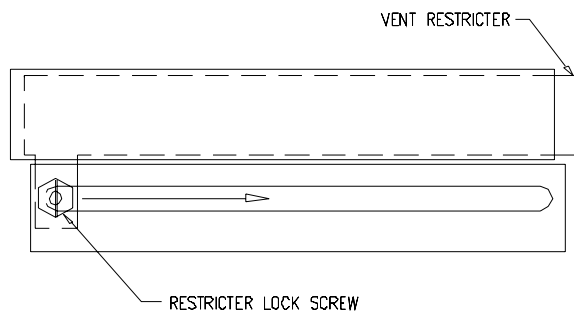

Figure 4.6 Secondary Air Adjustment
3. The adjusters are each held in place with one (1) 5/16" hex head screw. To change the position of each, loosen the appropriate screw and slide the adjusters to their new position. Tighten each screw when done (see Figure 4.6).
NOTE: If cold start-up problems and turbulence around the pilot are experienced after installing the panels, it is recommended that the left side secondary air inlet of the unit be partially shut (Figure 4.6), until the pilot flame settles.